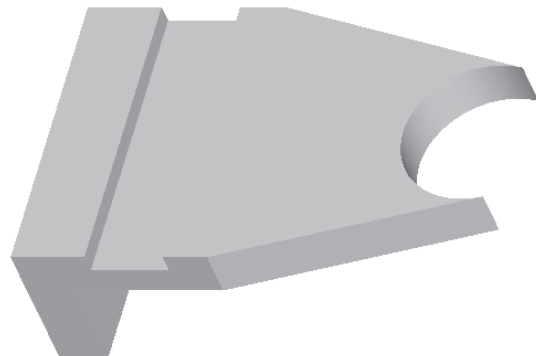

Figure 4-98 Model with the second extruded feature
5. Now, choose the **Build feature** button to confirm the feature creation. The default trimetric view of the extruded feature is shown in Figure 4-98.